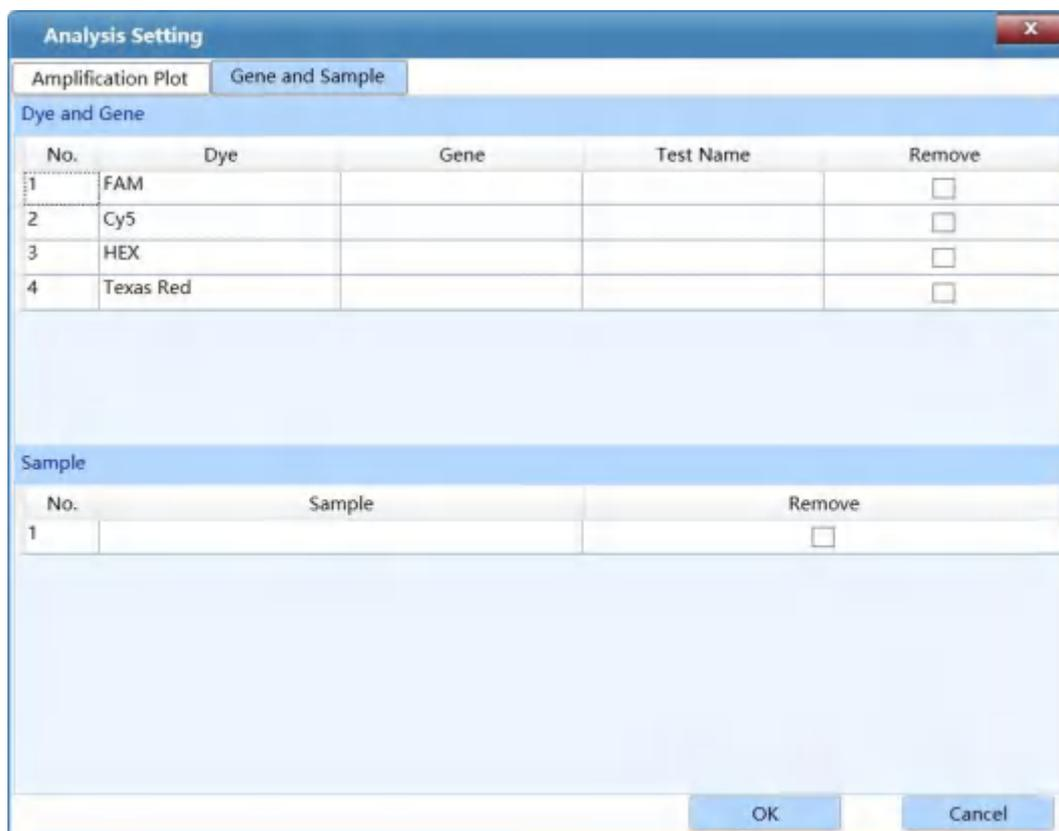

Figure D-9.2. Abs Quant Analysis Setting interface – Gene and Sample tab
- II. **Gene and Sample** tab: user can set the dye, gene and sample required for the analysis of the current experiment within the gene and sample tab, as shown in figure D-9.2.